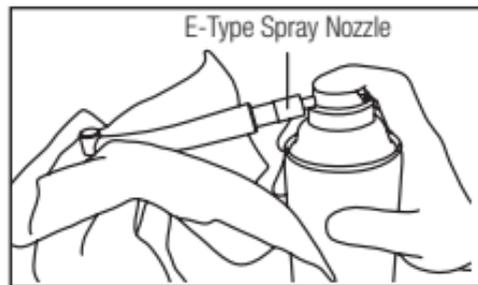

Fig. 18
- 3) Hold the handpiece, and spray for 2 or 3 seconds until oil comes out of the handpiece head (Fig. 18). Repeat lubrication until foreign material stops coming out of the tip.